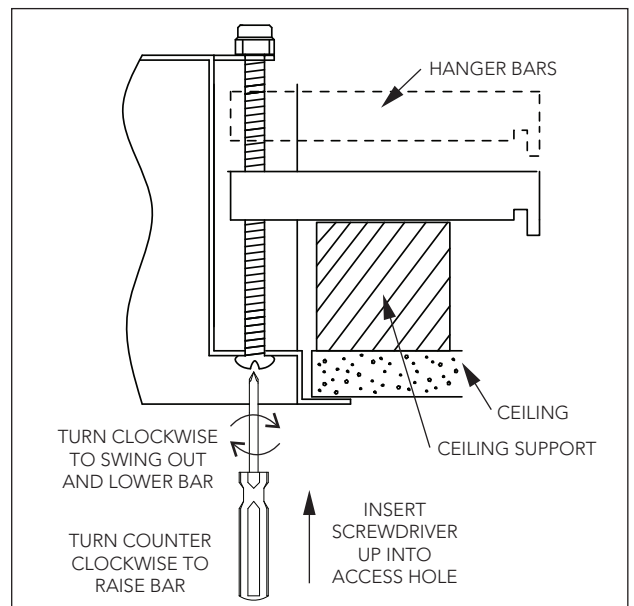

Figure 6
- j.) Hold the fixture in place against the ceiling. Allow the lensed door to hang open. Locate the (4) sway bracket adjustment screws located at the four corners of the housing. These are accessible from the inside of the housing. Use a Phillips screwdriver to turn the screws clockwise. (See Figure 6) This swings the bracket wing out away from the fixture and allows it to rest on the top side of the ceiling opening framing. When all (4) bracket wings have been swung away from the fixture, the fixture can support itself on the framing.
- k.) Continue turning the adjustment screws, alternating between the (4) corners, until the fixture and its flange pull up tight against the ceiling surface.